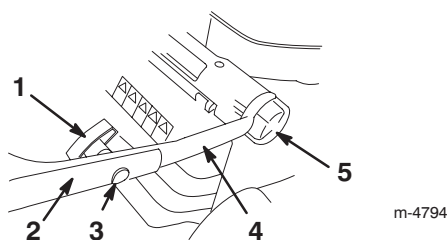

Figure 2
2. Loosen the handle height adjustment knobs and rotate the lower handle toward the rear of the lawn mower until it seats into one of the handle height settings as shown in Figure 2.
4. Install the upper handle section onto the lower handle section with the oval-head bolts and the handle knobs as shown in Figure 2. *Tighten the handle knobs securely.*
You can set the handle to 3 height settings: high, medium, and low (Fig. 2). Select the handle height setting most comfortable for you.